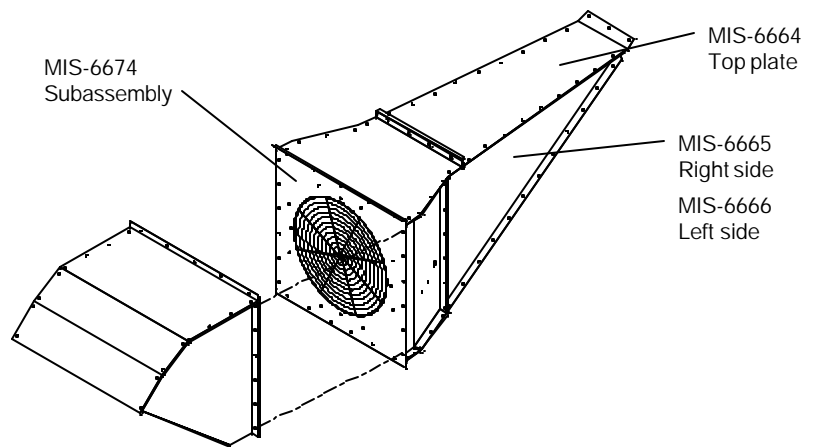

Figure 10: The 24" roof fan exhauster and rainhood.
11. Bolt the fan housing to the adaptor. See figure 10.